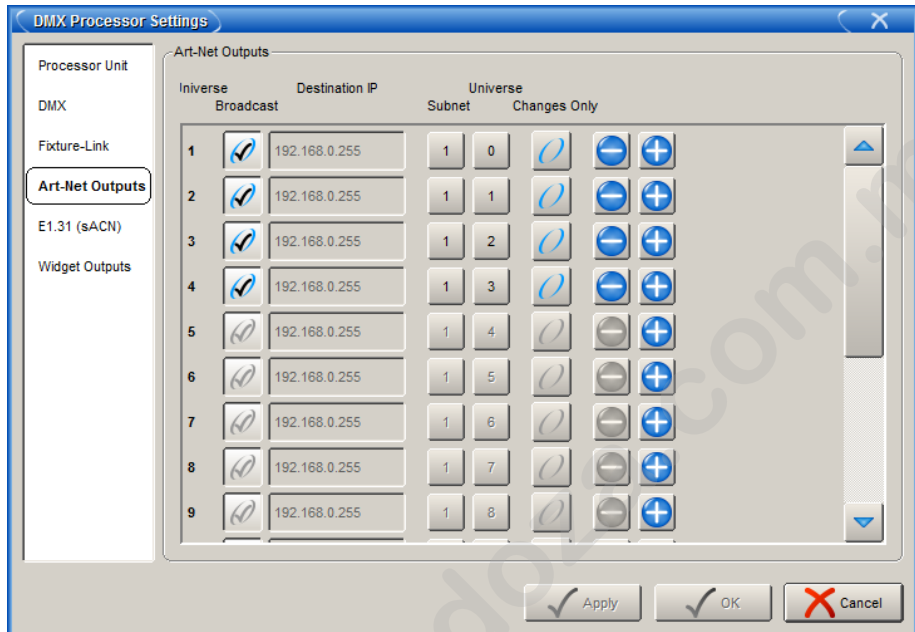

Figure 12.9. Art-Net Outputs pane of the DMX Processor Settings window
3. Select the Art-Net Outputs pane of the DMX Processor Settings window, see *Figure 12.9, “Art-Net Outputs pane of the DMX Processor Settings window”*.